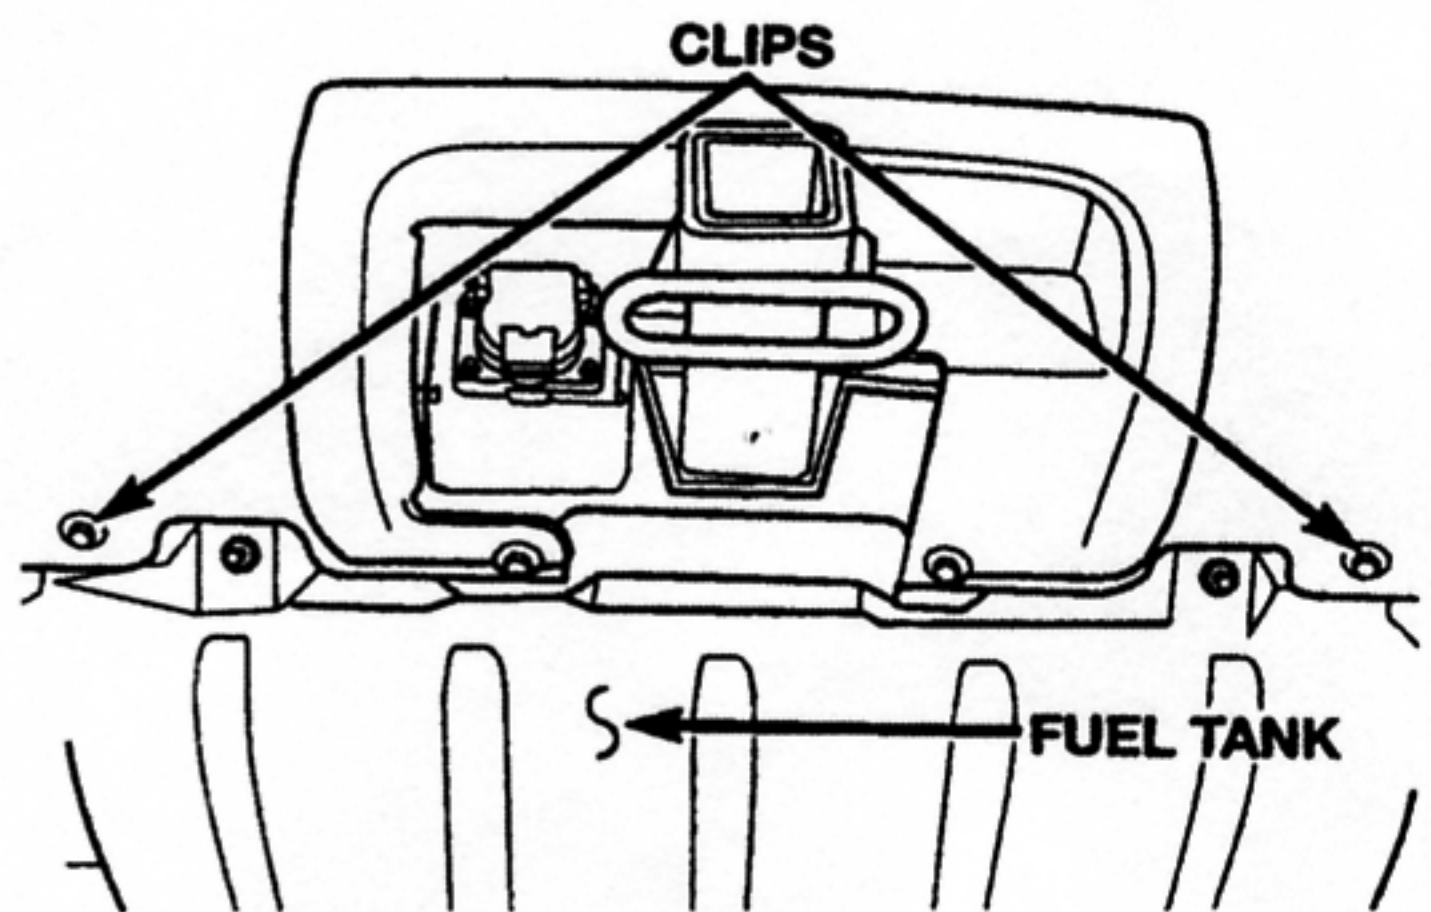

Figure 1
3. Remove the four (4) fuel tank-to-rear bumper fascia clips (Figure 1).
18. Install the four (4) rear fascia-to-fuel tank push pins (Figure 1).